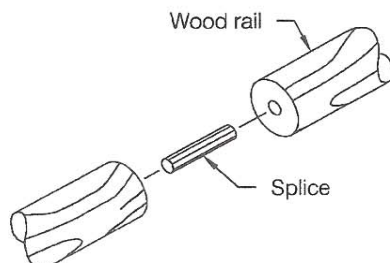

fig 7
- A maximum of 3" from end of wood at splice to provide support at splice, see **fig. 7**
Step 9: Refer to **fig. 7** for splicing of wood rail. Locate splice a maximum of 3" from bracket (see step 2). Using BRJ-1600 installation jig, drill 3/16" diameter pilot hole 1" deep in opposing ends of wood rail. Using a 3/8" diameter drill increase pilot hole for 3/8" diameter dowel pin. Apply a small amount of adhesive in each hole, insert dowel pin, and butt rails tightly together.